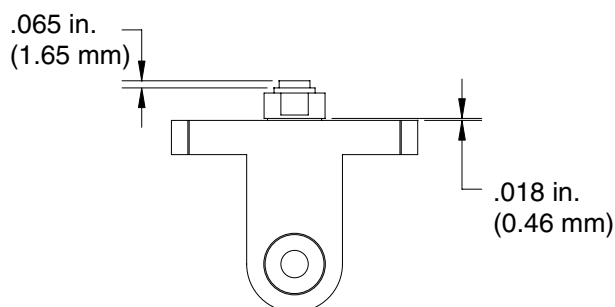

FIG. 9: Side Seal
10. Check side seal for wear by measuring how far seal protrudes from side seal assembly insert. A worn side seal promotes chemical leakage. Replace side seal if it protrudes 0.065 in. (1.65 mm) or less. In addition, check seal for scratches, which also promote leakage. See FIG. 9.
11. Inspect check valve assembly for damage by measuring gap between mating surface of side block and bottom edge of side seal assembly insert. If gap measures 0.018 in. (.46 mm) or less, the check valve assembly has been crushed due to overtightening and it must be replaced. See FIG. 9.